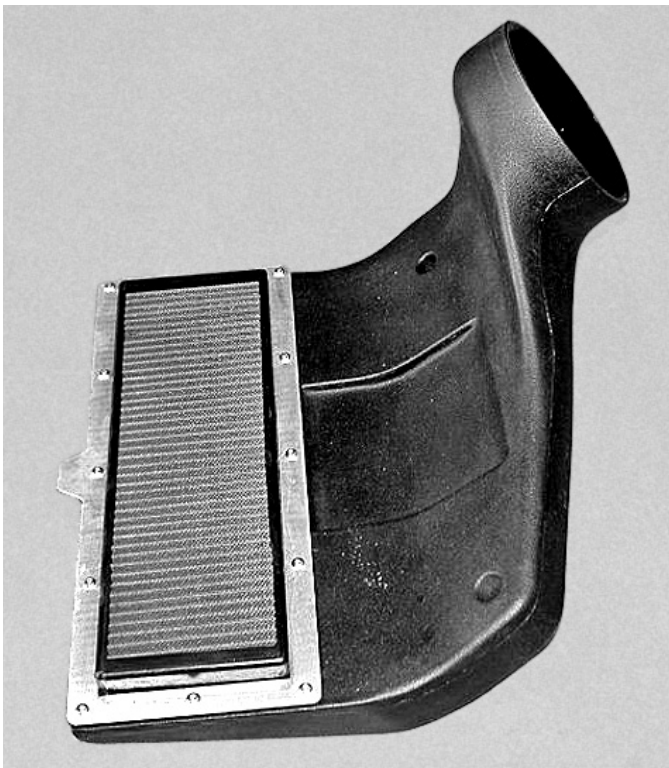

Fig. 10-a
- B. If the air inlet duct is not already assembled, install the metal frame around the air filter element and install onto the air inlet duct using the supplied screws. Install the supplied grommet into the duct. (See *Fig. 10-a.*)